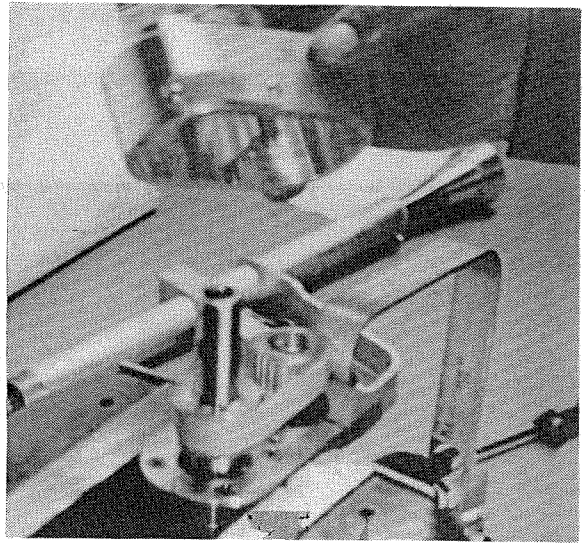

FIGURE 5-18
- E. REMOVE CAP SCREWS, (ITEM #30), AND BELT DRIVE COVER, (ITEM #3), SEE FIGURE 5-18. LOOSEN SOCKET HEAD SCREW, (ITEM #8), SO THAT AIR MOTOR, (#14) IS FREE ENOUGH TO PERMIT REMOVAL OF THE ENDLESS TIMING BELT, (#13).